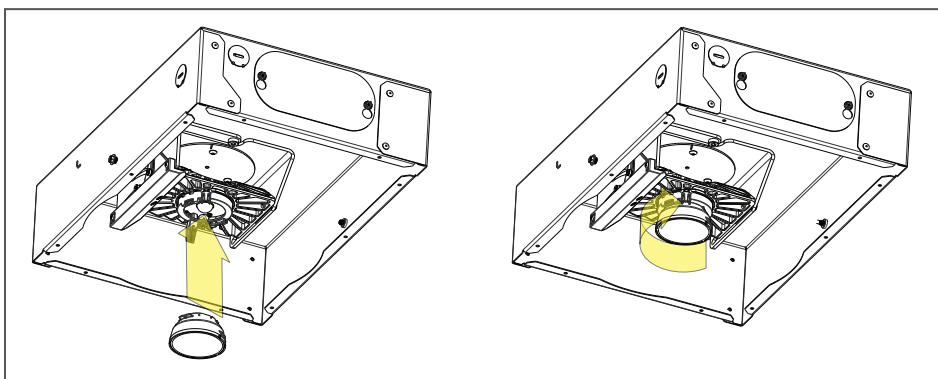

fig. 27
2. Gently twist the optic clockwise until it snaps into place (see fig 27).